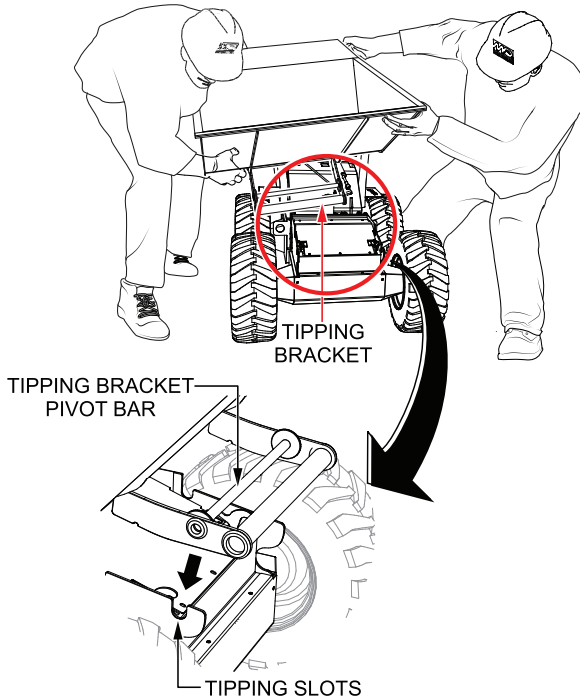

Figure 72. Tub Placement
4. With **two people**, lift the tub and tipping bracket onto the chassis (Figure 72). Make sure the tipping bracket pivot bar rests within the tipping slots.